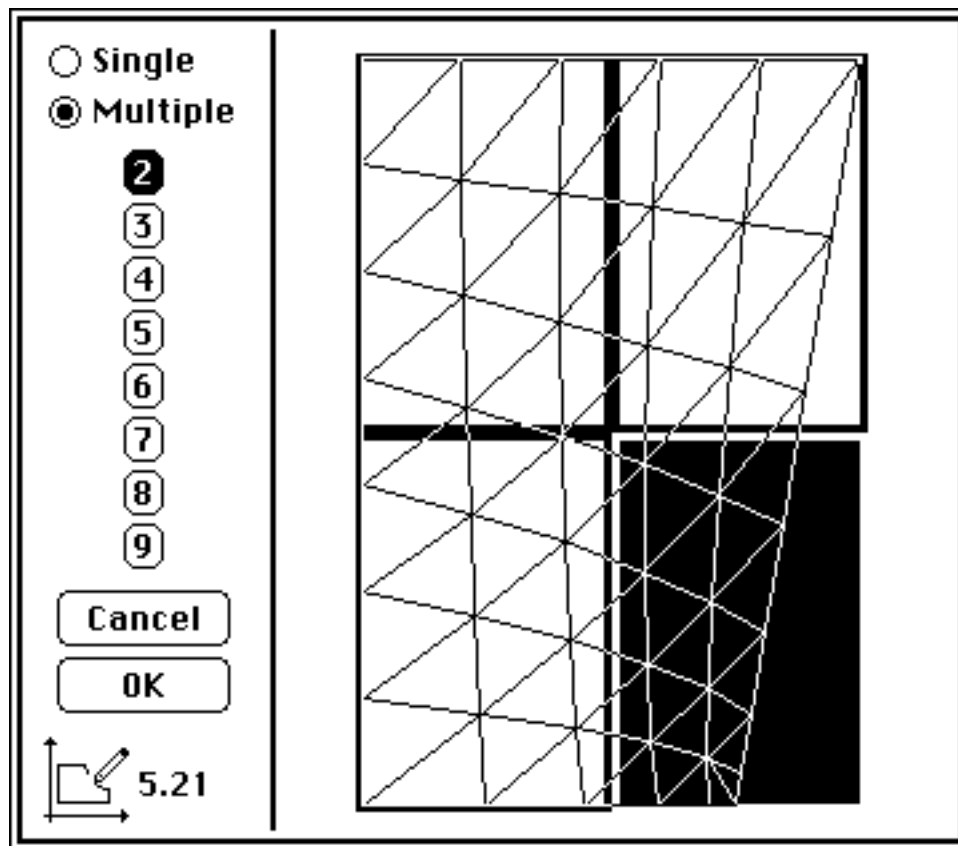

Fig 3.66 Multiple plot
- Select Multiple (Fig 3.66) and, if desired, adjust the number of subdivisions along each dimension. This technique creates multiple zones which MP draws to the same scale and you can assemble to form a large mosaic.